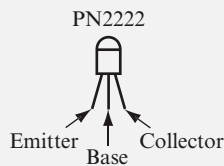

FIGURE 9.29
- One PN2222 transistor. Figure 9.29 shows the pinout diagram for PN2222 transistors.